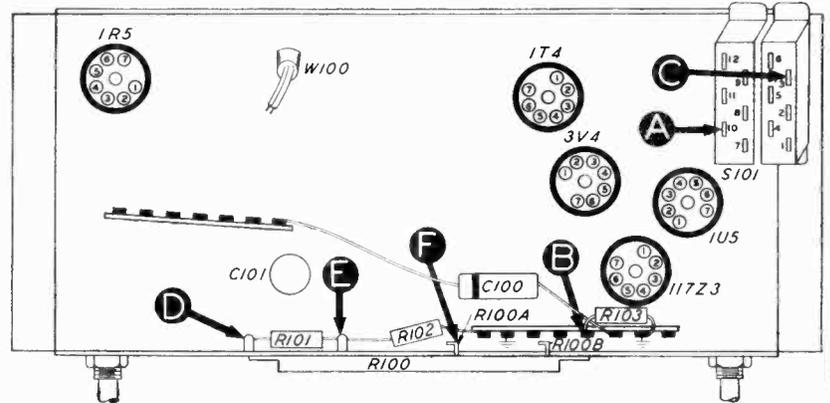

FIGURE 1. BOTTOM VIEW, SHOWING SECTION 1 TEST POINTS
3. Measure the resistance between B+ (pin 6 of the 117Z3 rectifier tube) and B-, test point B (see figure 1). When the ohmmeter test leads are connected in the correct polarity, the highest resistance reading will be obtained. If the reading is lower than 1040 ohms, check condensers C101A and C101B for leakage or shorts.